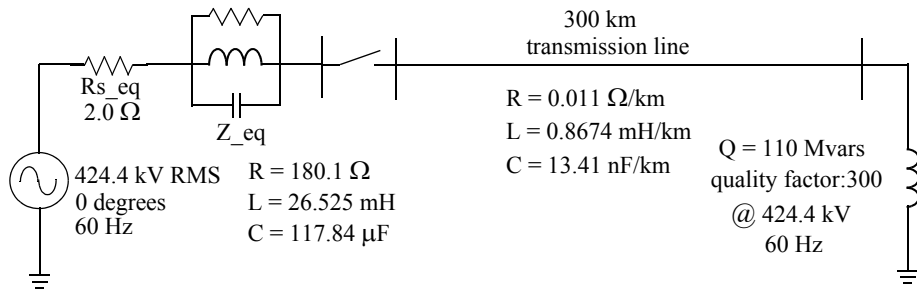

Figure 1-1: Circuit to Be Modeled with SimPowerSystems
- 3 Open the **AC Voltage Source** dialog box by double-clicking the icon and enter the **Amplitude**, **Phase**, and **Frequency** parameters according to the values shown in Figure 1-1.
- 5 Copy the **Parallel RLC Branch** block, which can be found in the **Elements** library of **powerlib**, set its parameters as shown in Figure 1-1, and name it **Z_eq**.
- 6 The resistance R_{s_eq} of the circuit can be obtained from the Parallel RLC Branch block. Duplicate the Parallel RLC Branch block, which is already in your **circuit1** window, set the R parameter according to Figure 1-1, and set the L and C parameters respectively to infinity (*inf*) and zero (0).
To complete the circuit of Figure 1-1, you need to add a transmission line and a shunt reactor. You add the circuit breaker later in “Simulating Transients” on page 1-23.
A PI section consists of a series R-L branch and two shunt C branches. The model accuracy depends on the number of PI sections used for the model. Copy the PI Section Line block from the Elements library into the **circuit1** window, set its parameters as shown in Figure 1-1, and specify one line section.
The shunt reactor is modeled by a resistor in series with an inductor. You could use a Series RLC Branch block to model the shunt reactor, but then you would have to manually calculate and set the R and L values from the quality factor and reactive power specified in Figure 1-1.